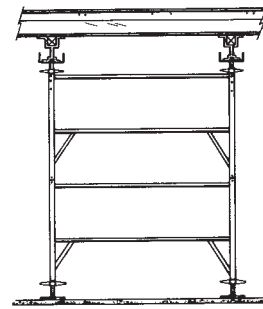

Figure 42-19: Typical Shoring Tower with Stringers, Adjustable Base Plates, and U-Heads
- Shoring towers should be snugged up under the stringers with adjustable base plates and U-heads (Figure 42-19).